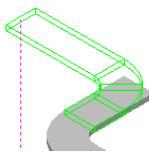

Figure 42: Extending the Cableway
29. Move the cursor to the other end feature to get the northing coordinate as show in Figure 42 and click in the graphic view to place the cableway.